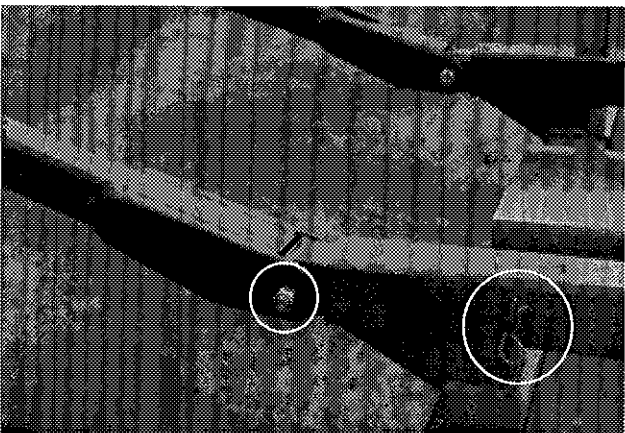

Figure 11
- 10) Install rear bale supports, 2 or 4 depending on equipment model. Install the bolts and pins with nut and hair pin on the support arms to prevent catching of the bale twine. (Figure 11)